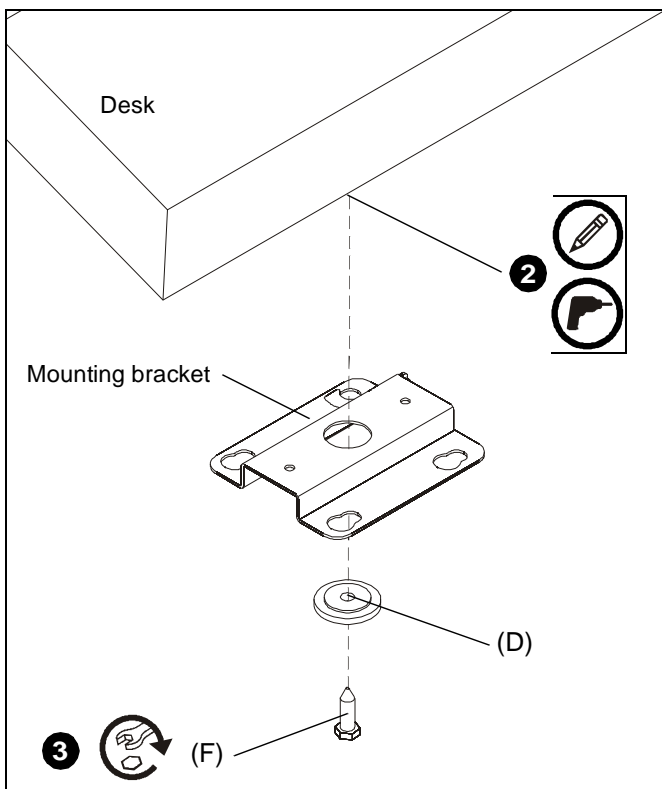

Figure 17
2. Using bracket and swivel bearing (D) as a template, mark and drill one 17/64" diameter pilot hole through underside of desk at desired mounting location. Ensure entire mount will clear the outer edge of desk. (See Figure 17)
3. Install 3/8 x 1-1/4" hex head lag screw (F) through bearing (D) and mounting bracket into hole drilled in Step 2. (See Figure 17)